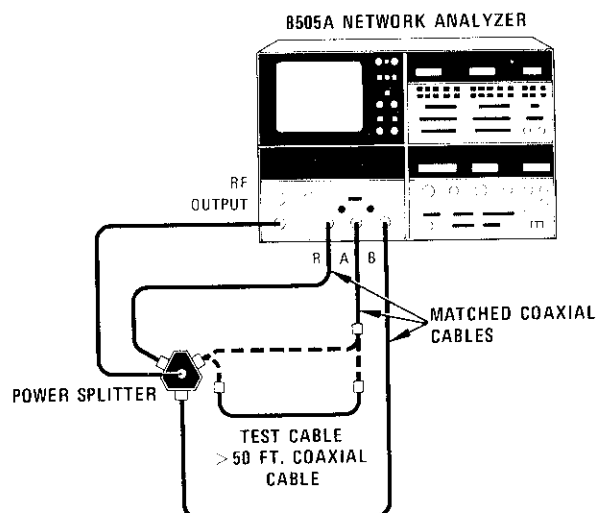

Figure A5-41. Test Setup to Measure Test Cable Group Delay
- (1) Connect the "Test Cable" in the A channel between the matched cable and the power splitter as shown in Figure A5-41.
- (2) Set 8505A controls as follows: